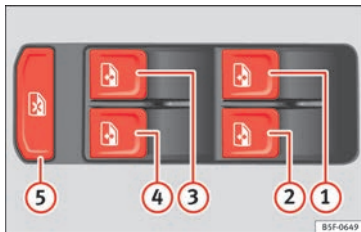

Fig. 131 Detail of the driver door: controls for the windows.
Buttons » Fig. 131 ①, ②, ③ and ④ have two positions for opening windows and two for closing them. This makes it easier to open and close windows to the desired position.